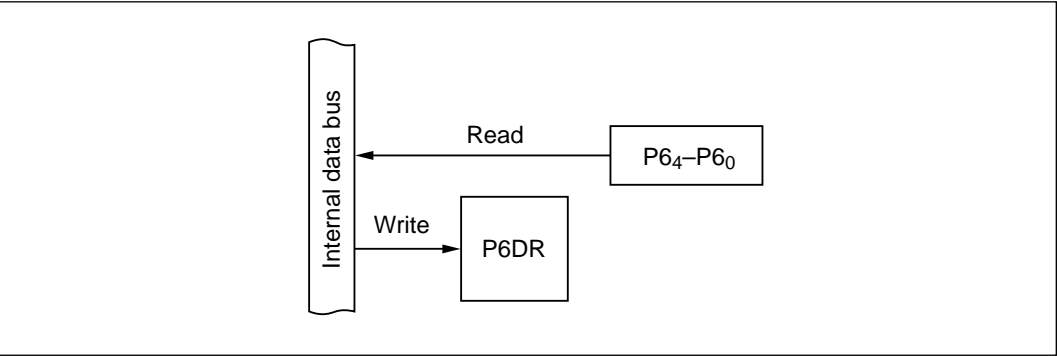

Figure 10-36 Input Port (Modes 1 to 7)
(1) **Input Port (Modes 1 to 7):** Figure 10-36 shows a block diagram illustrating the general-purpose input function. Table 10-28 indicates register read/write data. Values written in the port 6 data register (P6DR) have no effect on general-purpose input lines. When read, P6DR returns the value at the pin.